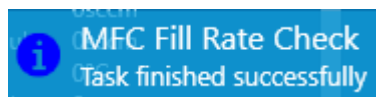

Figure 5-27 MFC fill rate check finished
- 7 Wait until the fill rate check finishes. The Status panel returns to normal and a **Task finished successfully** panel is displayed for a short time at the bottom right of the page (see Figure 5-27).